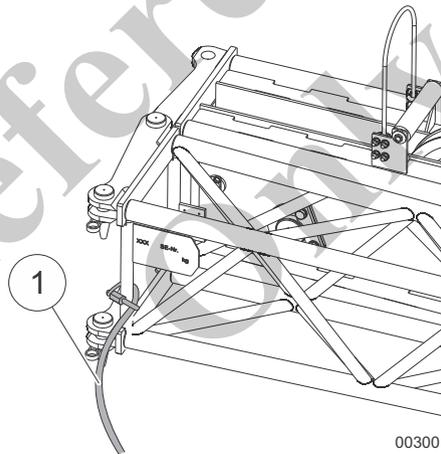

Fig. 141 Attaching a rope for pulling the fly boom around
17 | Attach a rope (1) in Fig. 141 to the fly boom.